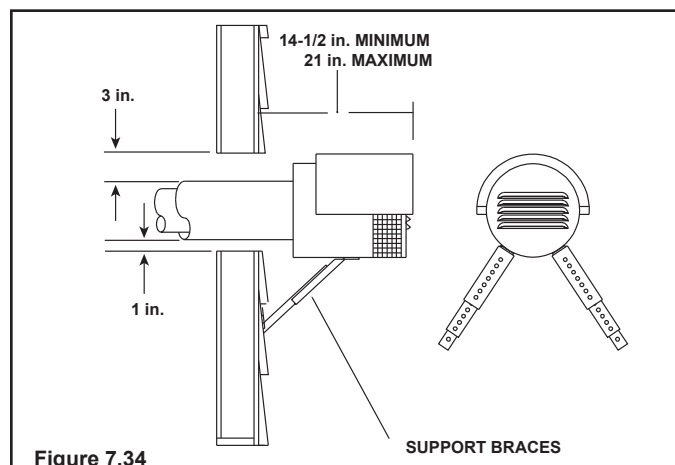

Figure 7.34
5. The minimum distance from the outside wall to the end of the top shield of the PVK-80 horizontal cap is 14-1/2 inches. The maximum distance is 21 inches. See Figure 7.34.
6. Two support braces are provided and **MUST** be used to mount the PVK-80 horizontal cap to the wall. Screw one end of each brace to the bottom of the cap housing, using the pilot holes in the cap. Extend each brace until it contacts the building wall and tighten the bolt/nut in the center of each brace. Fasten the other end of each brace to the outside wall. See Figure 7.34.